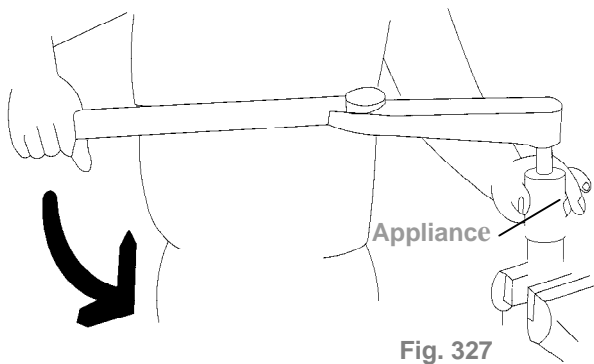

Fig. 327
3.1 Fix the pulse unit by a vise. Use the appliance (see Chart 54) to loosen the lock nut on the pulse unit, Fig. 327.